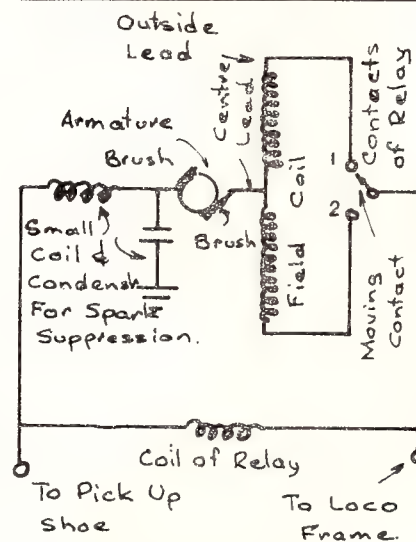
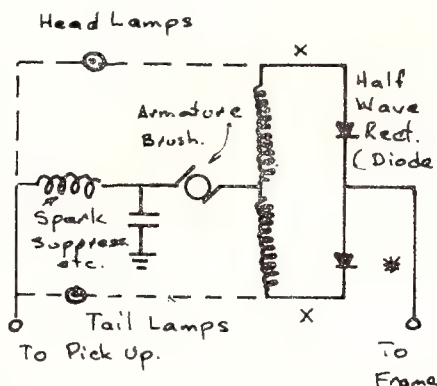

FIG 1:- Typical MARKLIN Loco Before Conversion.
FIG. 2:- Typical MARKLIN Loco After Conversion
A.: Refer to Fig. 1 which is a typical Marklin loco circuit before conversion. The exact circuits of Marklin locos vary a bit. Some relays have an extra contact which breaks the power while the reversing operation is in progress. This prevents "jack rabbiting". Some have quite an involved head and tail lamp set-up. After conversion all finish up with the circuit shown in Fig. 2. The small spark suppression coil is only a few turns of heavy copper wire with a piece of insulating tubing slipped over it. It does not matter which brush lead it is in or on. It will O.K. in its original spot. The condenser looks like a small button with a couple of wires coming out of it. It goes from one brush to the frame of the latter.
Now wire according to Fig. 2. We are not in favour of using the wheels as pick-ups except on tender locos where an insulated drawbar can be provided. We have used a two-rail, pick-up shoe made from a modified Tri-ang or Fleischmann shoe bearing on the inside of the insulated wheels. Marklin wheels are a press fit. Spares are usually available from Marklin dealers if you should spoil one. A piece of knitting needle can be used as the insulator. A fibre washer should be placed behind the wheel so that it cannot short to the frame.